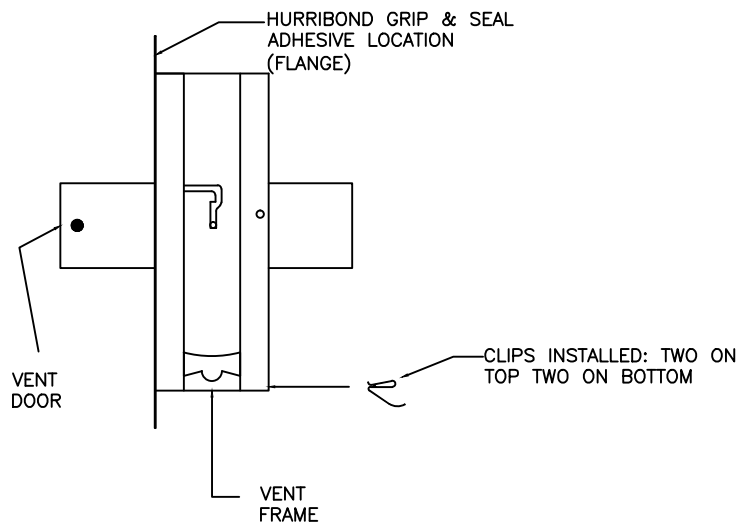

FIGURE 2
3. APPLY A BEAD OF HURRIBOND GRIP & SEAL OR EQUIVALENT ADHESIVE AROUND THE BACK OF THE FLANGE ON THE VENT FRAME. (FIG. 2)